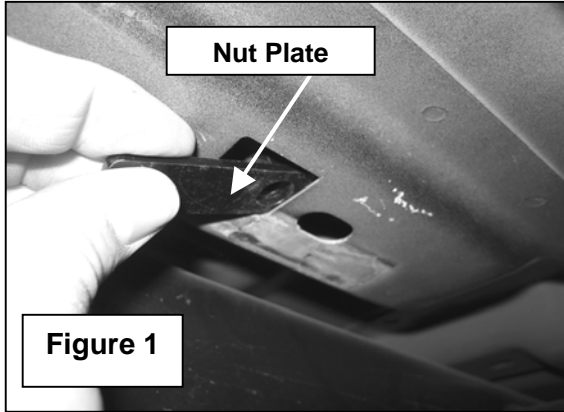

Figure 1
- Insert a nut plate into the frame opening on the front driver side with the nut facing up, **(Figure 1)**.